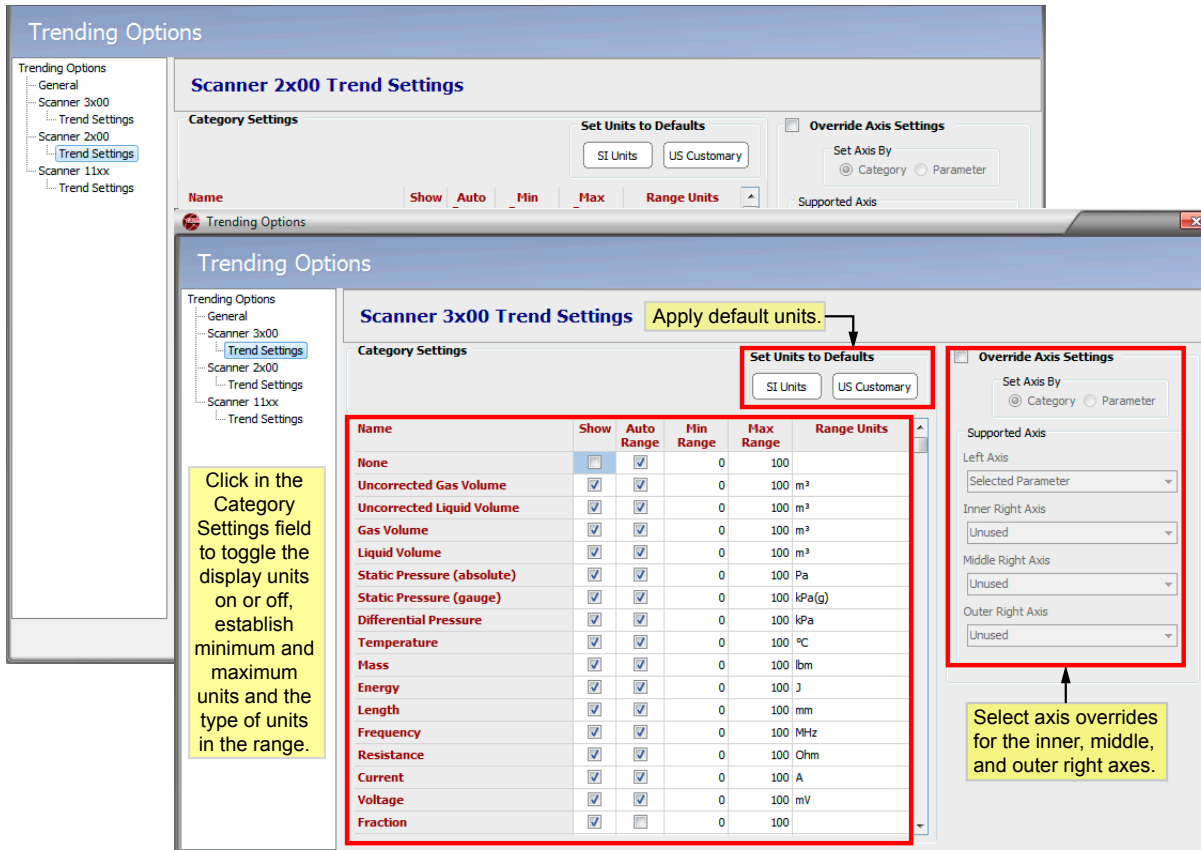

Figure 2.10—Scanner 3x00 and 2x00 Trending Options dialog
- Select the parameters to appear on the trend graph (Figure 2.10, page 19).